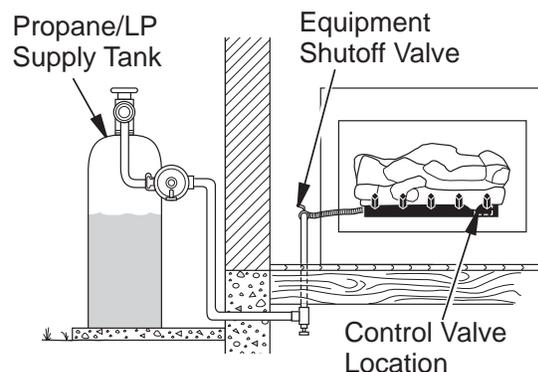
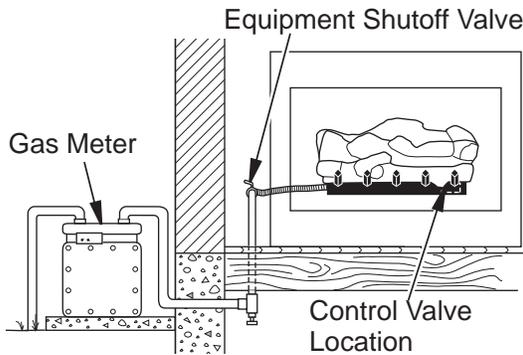

Figure 16 - Checking Gas Joints (Propane/LP Only)
Figure 17 - Checking Gas Joints (Natural Gas Only)
3. Check all joints from gas meter to equipment shutoff valve for natural gas or propane/LP supply to equipment shutoff valve for propane/LP (see **Figure 16 or Figure 17, Page 16**). Apply noncorrosive leak detection fluid to all joints. Bubbles forming show a leak.
4. Check all joints from gas meter to equipment shutoff valve for natural gas or propane/LP supply to equipment shutoff valve for propane/LP (see **Figure 16, Page 15** or **Figure 17, Page 16**). Apply noncorrosive leak detection fluid to all joints. Bubbles forming show a leak.